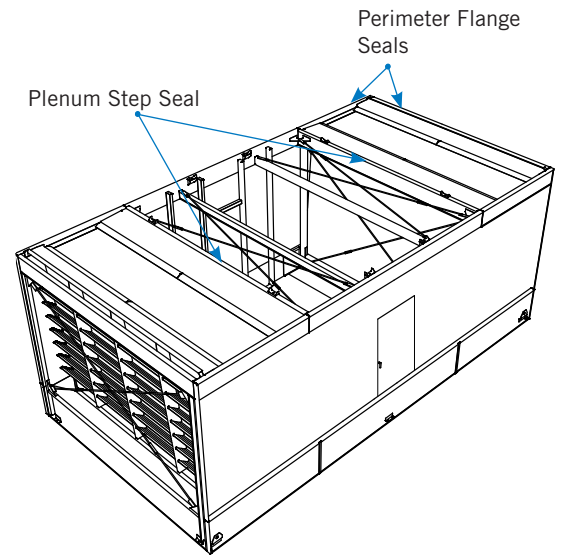

Figure 8. Lower Section Sealing Detail
3. Wipe moisture and dirt from the perimeter flange and plenum step as shown in **Figure 8**.